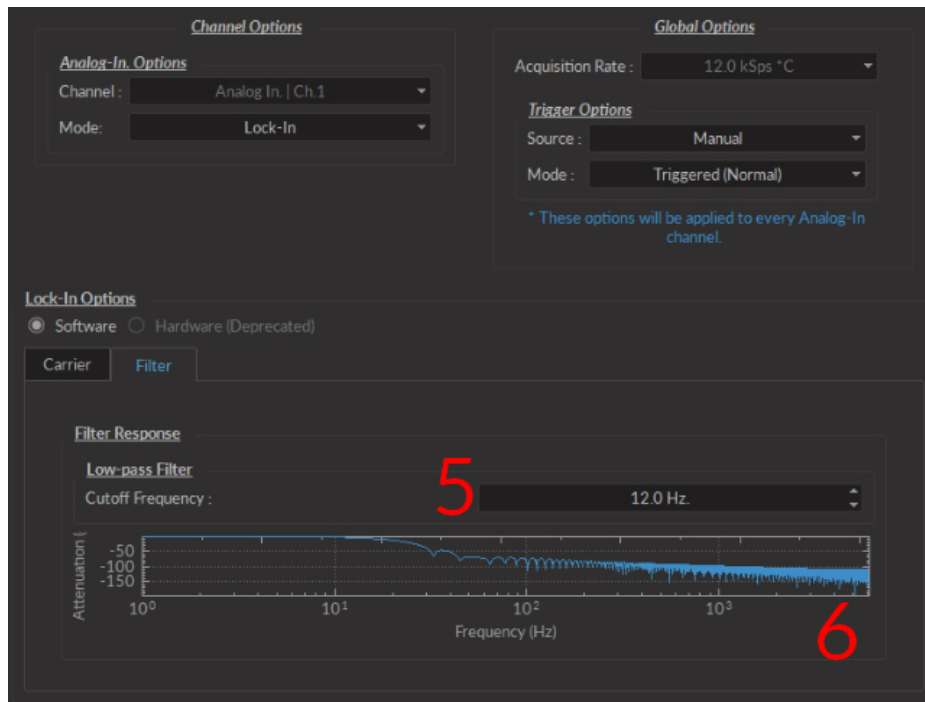

Figure 3.27: Channels configuration, Analog Input Lock-in Mode, Filter Tab
5. The **Cutoff Frequency** (Fig. 3.27) (the frequency at which a -3 dB attenuation will occur), found on the **Filter** tab is kept fixed at 12 Hz for optimal filtering results.